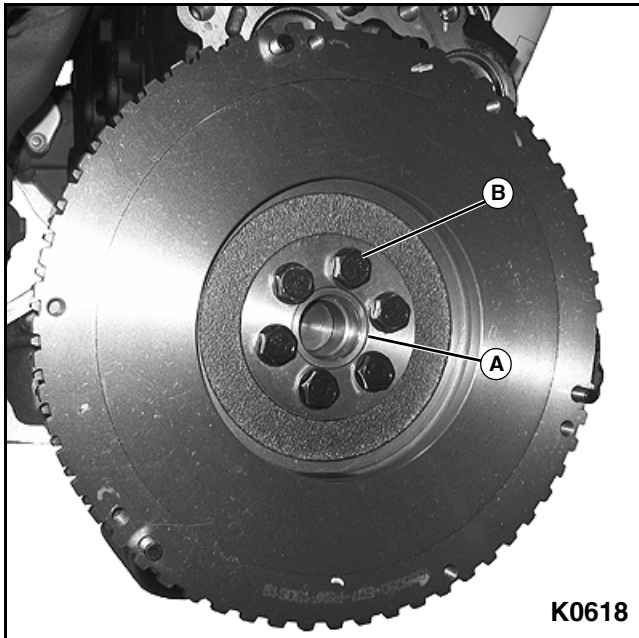

Figure 3-79
1. Mark flywheel to crankshaft (A) for proper indexing during assembly. **See Figure 3-79.**
2. Remove six flywheel mounting bolts (B) from flywheel.